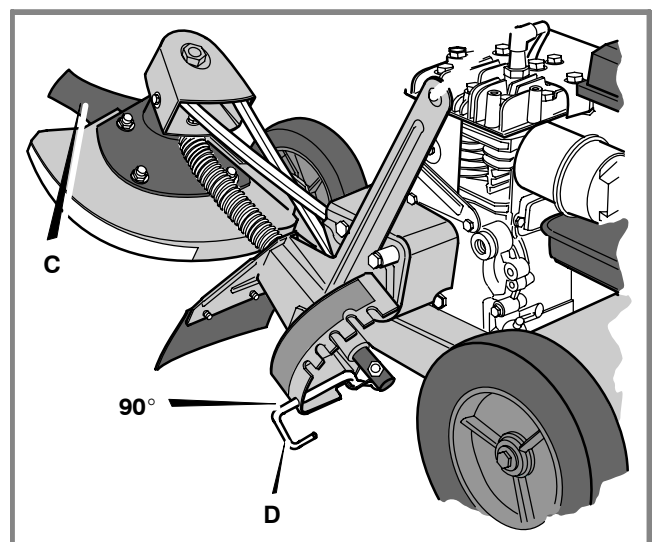

Figure 19: Trimming Position
- For *trimming*, set the index lever at angle position 90° (see Figure 19).